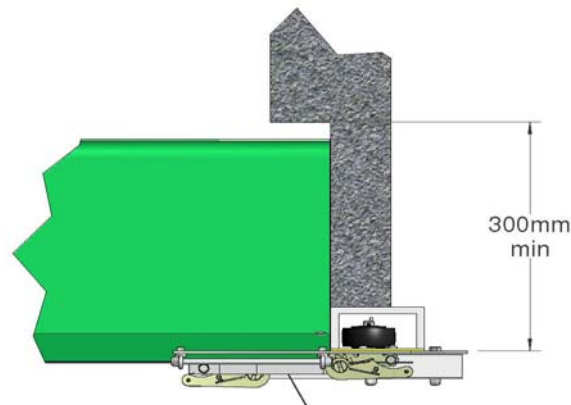

Figure 15a
16.2 Extensions above 400mm: In addition to panel protection as detailed above, ensure there is 300mm clearance either side of the tracking to allow the door panel to fold (Figure 15a).